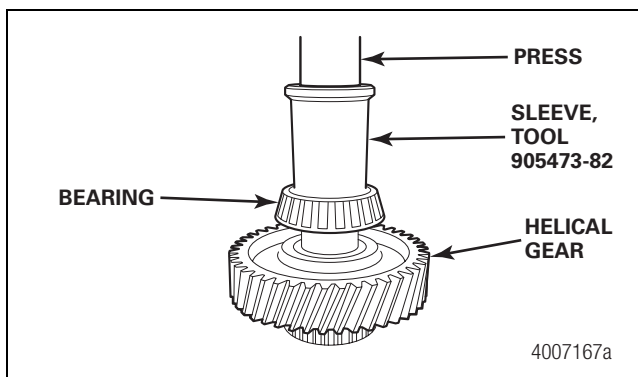

Figure 6.11
4. Use a press and sleeve to press the bearing DOWNWARD onto the output shaft until it bottoms out against the helical gear. Refer to Section 13 for tool number 905473-82. Use a 0.002-inch shim or feeler gauge to check that the bearing is fully seated against the gear. Figure 6.11.